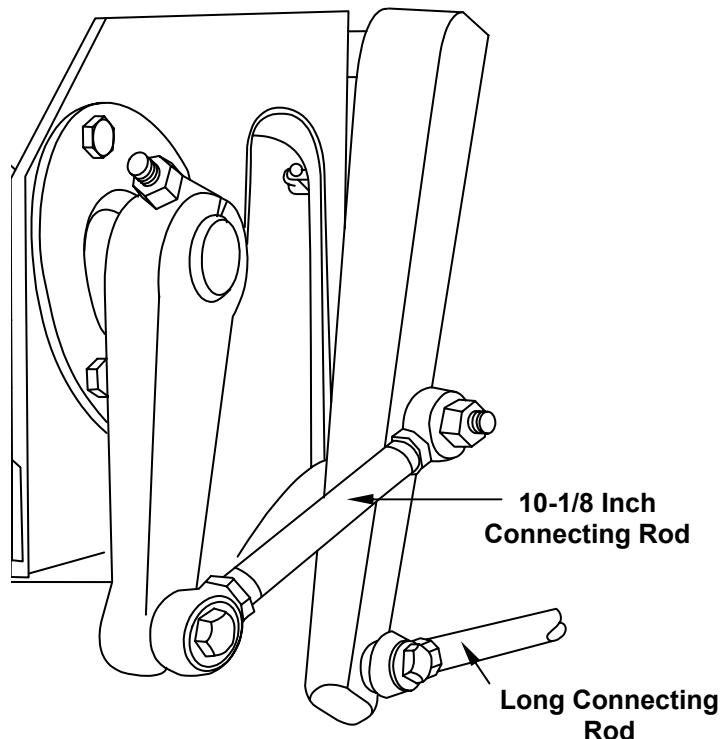

Figure 4.2-24
- a. Adjust the short connecting rod (see Figure 4.2-24) to obtain a starting length of 10-1/8 inches center to center between the rod end openings. Tighten the jam nuts.